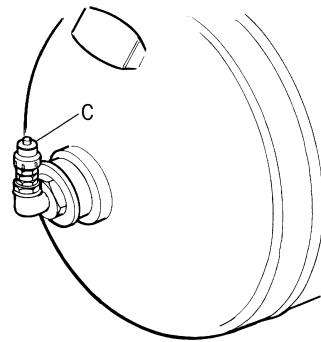

fig. 11
- The electric compressor is provided with a safety valve set a pressure superior to that of the maximum pressure set in the air pressure switch. It is released in case the air pressure switch is damaged and opens an air outlet for exceeding air (*fig. 11*).
Control the correct functioning of the safety valve every 2000 hours of operation. Switch off the compressor when it has reached a pressure of 6-7 bar and pull the valve ring C with strength, without getting near with the face. Compressed air will be released. If when releasing it, the ring goes back in normal position and stops the air outlet, the valve is perfectly working (fig. 11). If otherwise contact a technician for the replacement.